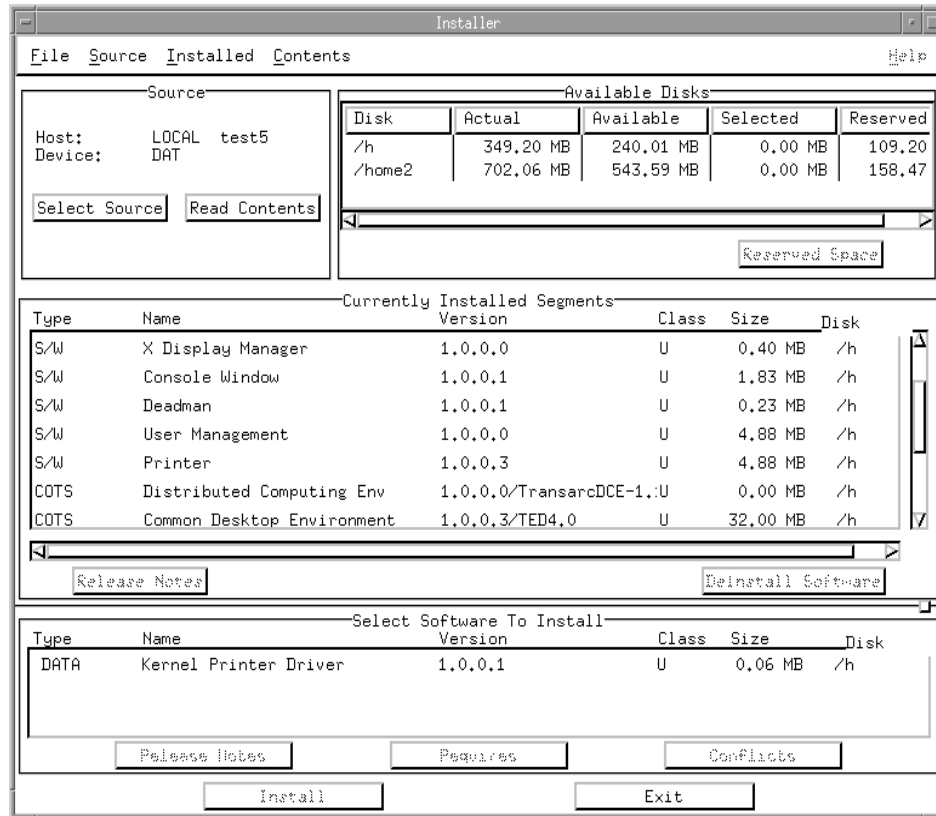

Figure 3. Installer Window with Select Software To Install Panel
STEP 6: Read the table of contents of the DAT. Click on the Read Contents button in the Source panel. The media is scanned, and the Installer window adds the Select Software To Install panel. This panel lists the Kernel Printer Driver Version 1.0.0.1, which is the patch you want to install. Figure 3 shows a sample Installer window with the Select Software To Install panel.